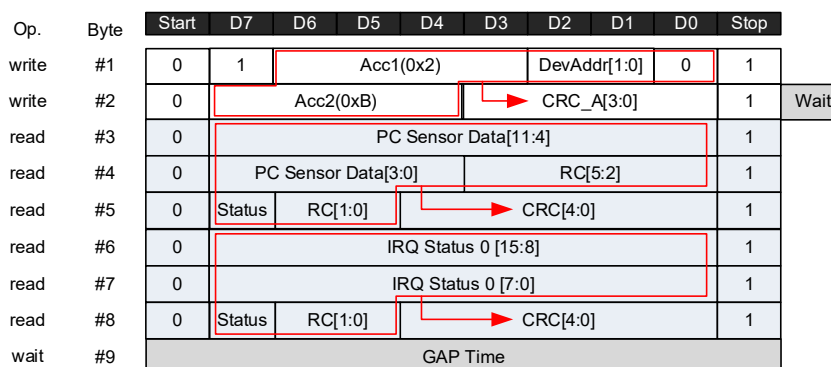

Figure 47. UART Fast Read Mode Example with Different Access Codes
- Fast read mode of two registers within one frame with 12, 14 or 16 bits of data per register (Figure 47)
The frame structure can be seen in Figure 47, an example of reading 12-bit primary coil sensor data (Acc1 = 0x2) and 16-bit IRQ status 0 (Acc2 = 0xB), the frame bitfield are described in the list below: